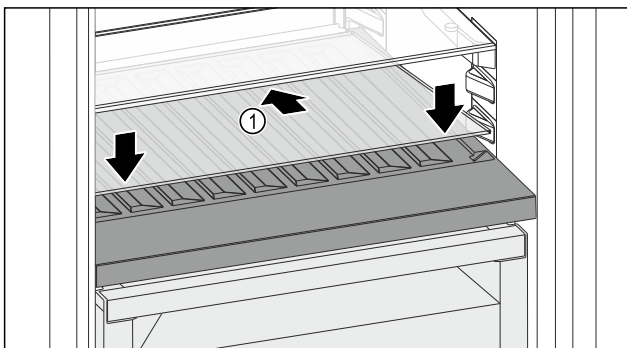

Fig. 207
- ▶ Place the glass shelf Fig. 207 (1) at an angle, sloping it downwards and backwards.
- ▶ Lower the glass shelf Fig. 207 (1) at the front.